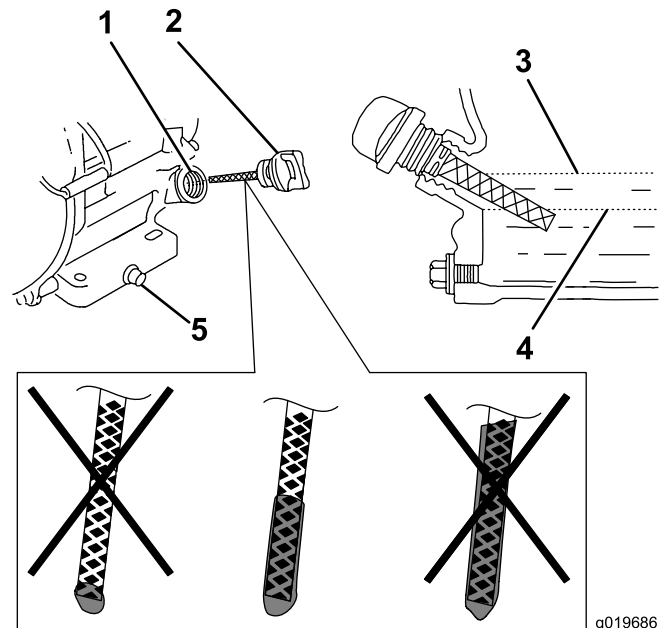

Figure 6
3. Clean around the oil filler cap/dipstick (Figure 6).
4. Remove the oil filler cap/dipstick by rotating it counterclockwise (Figure 6).
Note: If oil level is near or below the lower limit mark on the dipstick, add only enough of the specified oil to raise level to the upper limit mark (bottom edge of the oil fill hole); refer to Figure 6.
7. Check level of oil (Figure 6).
8. Install the oil filler cap/dipstick and wipe up any spilled oil (Figure 6).